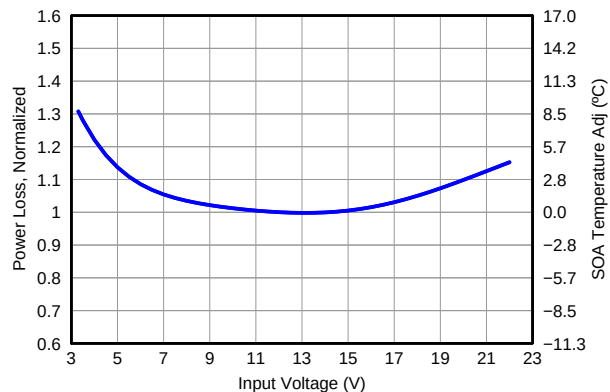

Figure 13. Normalized Power Loss vs Input Voltage
- Normalized Power Loss for input voltage ≈ 1.05 (Figure 13)
- SOA adjustment for input voltage $\approx 1.4^\circ C$ (Figure 13)